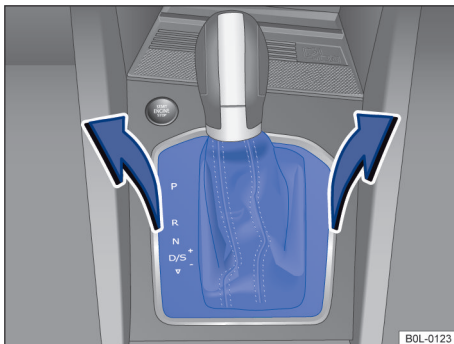

Fig. 90 Removing the cover of the gearshift gate
- Carefully pull the cover upwards in the area around the selector lever gaiter with connected electrical wiring → Fig. 90.
- Insert the screwdriver head into the slot of the manual release mechanism, and slightly press the manual release mechanism in the direction of the arrow → Fig. 90.